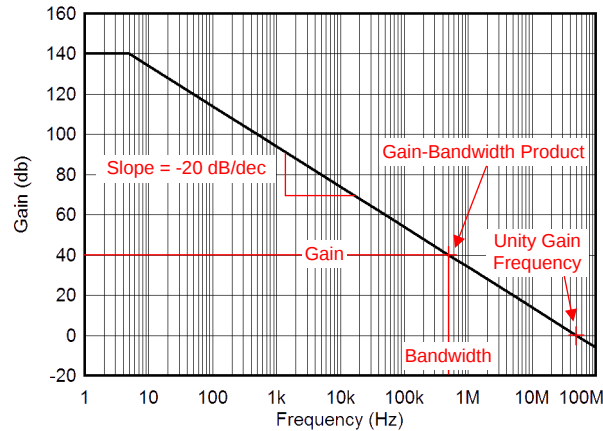

Figure 53. Gain-Bandwidth Product and Unity Gain Frequency
The parameters of an amplifier that best describes the small signal dynamic behaviour are the gain-bandwidth product (GBP), unity gain frequency (UGF) and phase margin (PM) of an amplifier. The GBP is a useful parameter to determine the bandwidth of an application in closed loop configurations. Equation 3 can be used to approximate the closed loop bandwidth for the OPA828. Typically the GBP is a specified parameter with the amplifier configured in a non-inverting gain of 100 (40 dB). The GBP of an amplifier is generally assumed to be constant over frequency but in some higher speed amplifiers this is not always the case. The OPA828 has a constant GBP all the way to its UGF, as such the OPA828 open-loop gain has a constant -20 dB/decade slope (-6 dB/octave). The UGF is defined as the frequency at which the gain of the amplifier crosses 1V/V (0 dB). Figure 53 illustrates the concept of GBP and UGF. The OPA828 has both a GBP and UGF of 45 MHz.